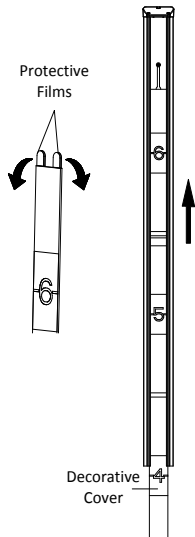

Figure 2-22 Peel off Protective Films and Slide the Decorative Cover in the Base
9. Peel off protective films on both side of the decorative cover. Slide the decorative cover in the base. See Figure 2-22.